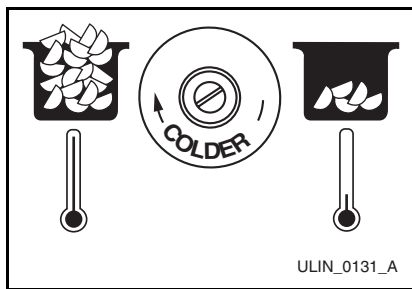

**Figure 4**
1. Remove the front grille (one screw) (**Figure 4, 1**).